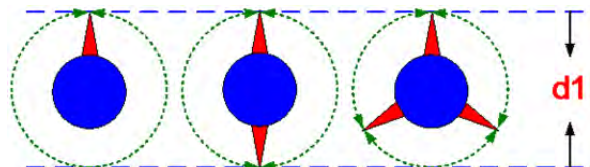

Figure 2.33 The Relationship between Cutter Number and Cutter Diameter
- Cutter number (*Knife No.*) and diameter (*Knife Diameter d1*): The cutter number can be changed according to the application and should be equally allocated on the cutter axis. "Cutter radius" is the distance from cam center to cutter tip, cutter radius times two is "Cutter diameter". Therefore, regardless the cutter number, cutter diameter is always the same. See Figure 2.33. ASDA-Soft will figure out the cutter circumference from the cutter diameter.